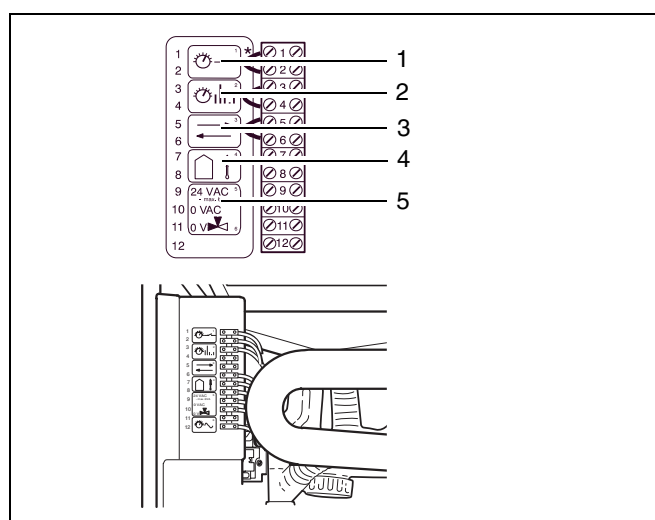

fig. 20 Connecting the control unit
Connect the three-way valve to terminals 9 and 11 of the terminal strap (fig. 20, item 5).
- Remove the bridge and connect the control unit to the terminal strap as indicated in fig. 20.
Key to fig. 20: